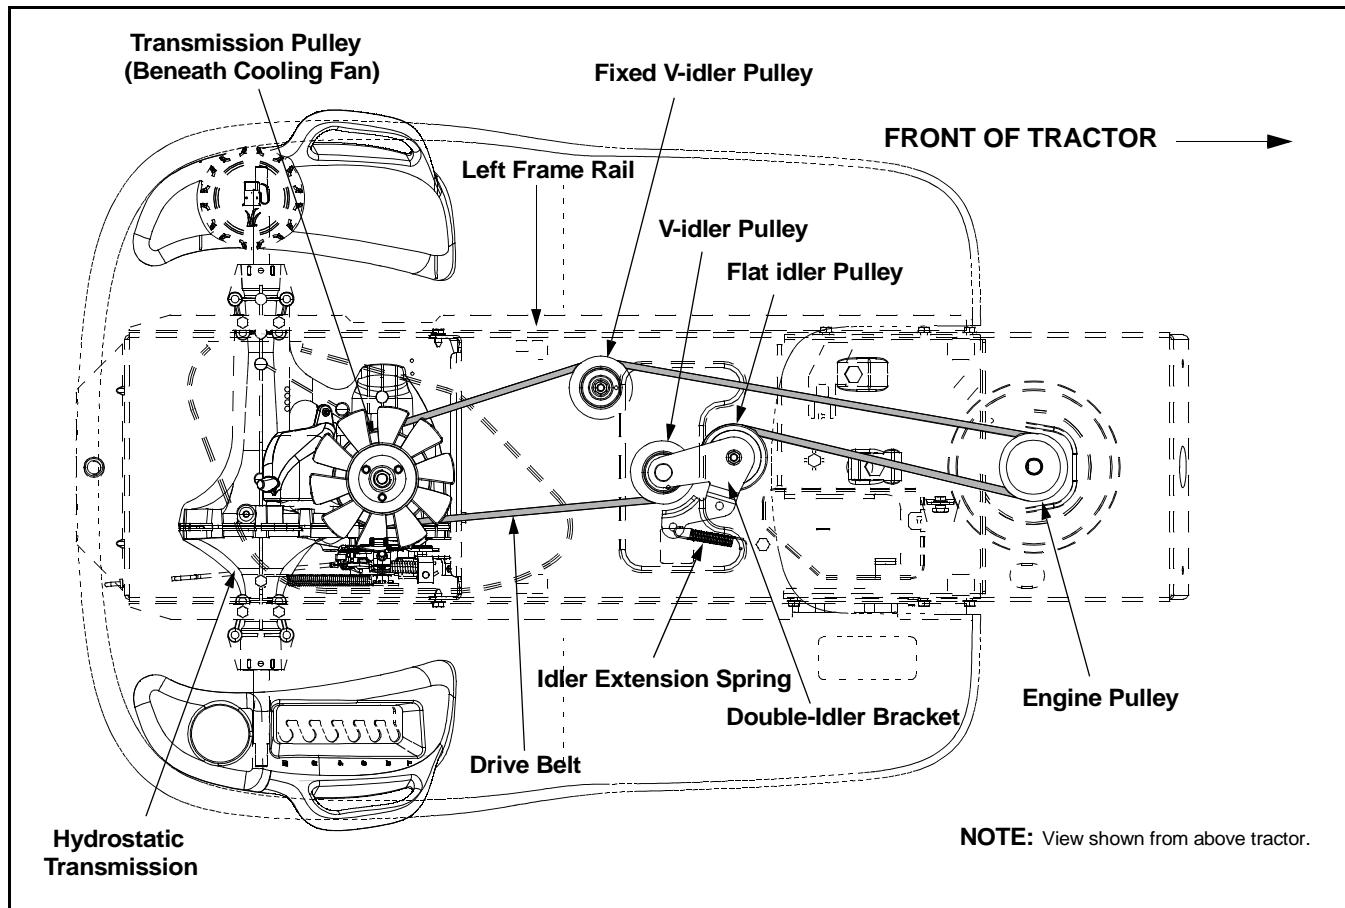

Figure 28
**IMPORTANT:** Note the routing of the drive belt both on the tractor and in Figure 28 BEFORE performing the following steps.
- Locate the fixed v-idler pulley found on the left underside of the frame. See Figure 28.
- Grasp the belt on each side of the pulley and carefully move it toward the left frame rail, then downward to disengage the belt fixed idler pulley. See Figure 28.
- Remove the drive belt by feeding it from front to rear, toward the hydrostatic transmission. See Figure 28.
- Install the new belt routing it EXACTLY as the old one was routed. Refer to Figure 28.